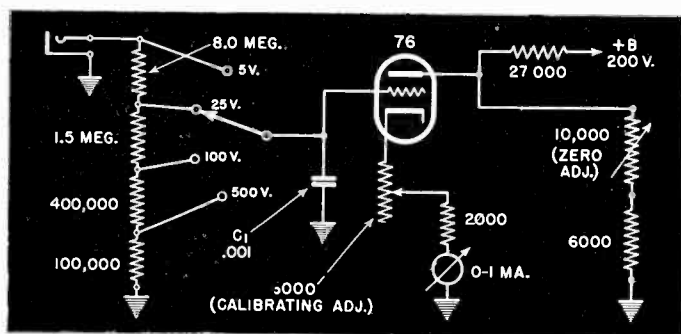

Fig. 2. Diagram of a typical electronic voltmeter such as used in conjunction with signal-tracing equipment.
Fig. 2. (A) Position of stylus in relation to groove. (B) Angle of stylus in relation to record surface. (C) The groove and the land should be about the same width.
A triode is employed with a 1-ma meter in the cathode circuit, as shown in Fig. 2. A resistance in series with the meter is adjusted until the cathode current indicated on the meter is 0.5 ma. When a positive voltage is applied to the triode grid, the meter reading increases. When a negative voltage is applied, the reading decreases. Thus either positive or negative voltages may be measured without the need for any switching.